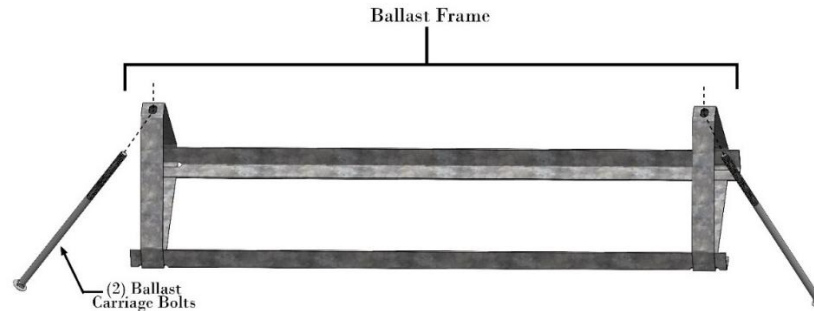
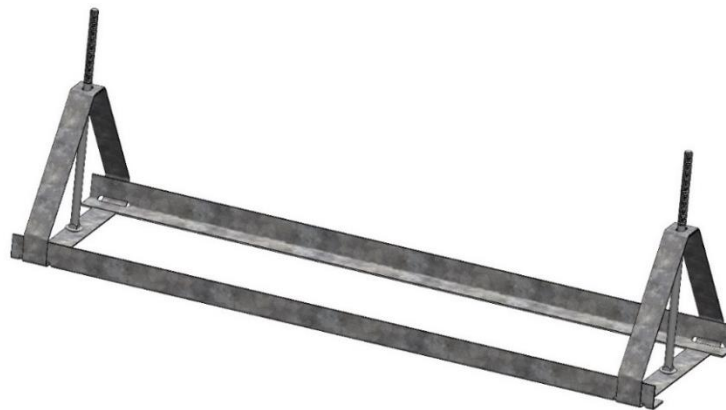

Figure 12 Ballast carriage bolt insertion
Figure 13 Ballast frame assembly
3. Slide the threaded end of the ballast carriage bolt into the tower ballast straps top hole and let it rest on bottom of the tower ballast strap as per Figure 12 and Figure 13.